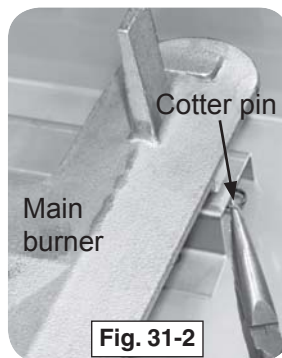

Fig. 31-2
2. Remove the cotter pin from the left or right rear burner anchoring peg by pulling it straight out of the cotter pin hole using fingers or needle-nose pliers (Fig. 31-2).